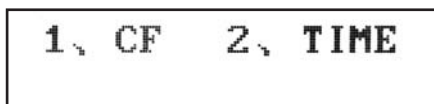
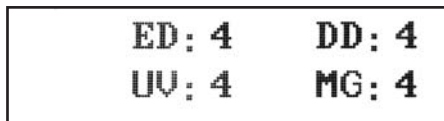

Fig. 7
Fig. 9
Press the “**SET**” button (see Fig. 7)
Press the **"SET"** button (see Fig. 7) and then press "1" (see Fig. 9)
•Recommended setting corresponded to average figures, see Fig. 9
After these steps, "Factory setting loaded" will appear on the display. Settings will equal to average figures. See Fig. 9.